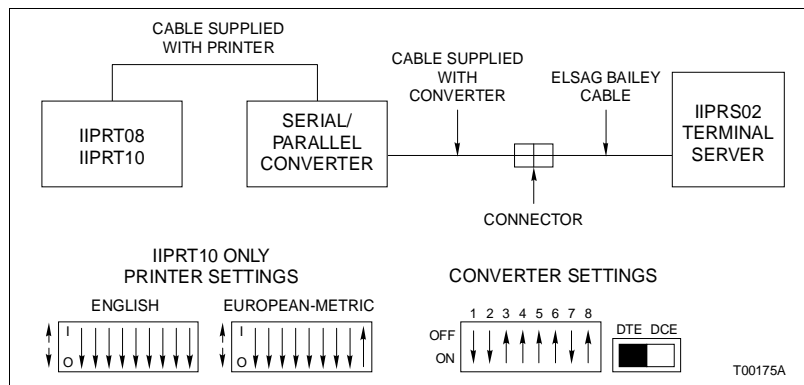

Figure PR42-1. Printer Cable Configuration and Dipswitch Settings
NOTE: Printer dipswitch settings are different for English media (A and B) and European metric media (A4 and B3). Refer to Figure PR42-1.
- 3. Connect the cable supplied with the printer from the printer to the serial/parallel converter (Fig. PR42-1).